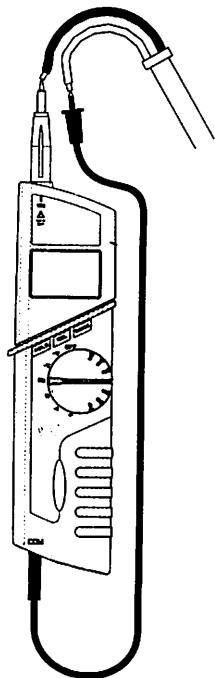

Fig. 5: Frequency measurement
2. Insert the black test lead in the COM jack and the red probe in the V+/ Ω jack (Fig. 5).